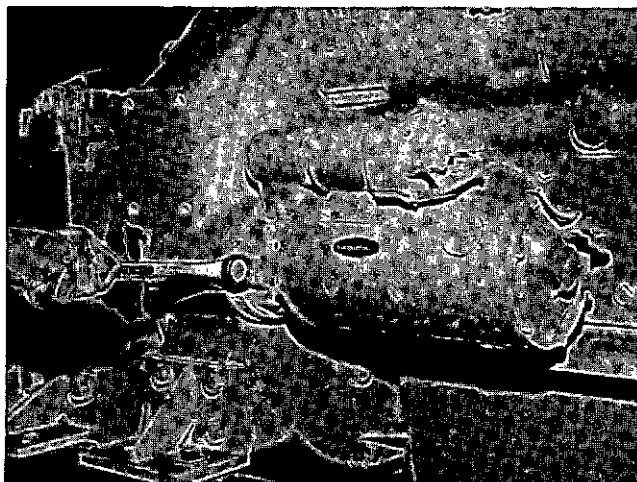

Fig. 0-4, V40036. Removing cranking motor
1. Remove capscrews and lockwashers securing cranking motor to flywheel housing. Fig. 0-4.